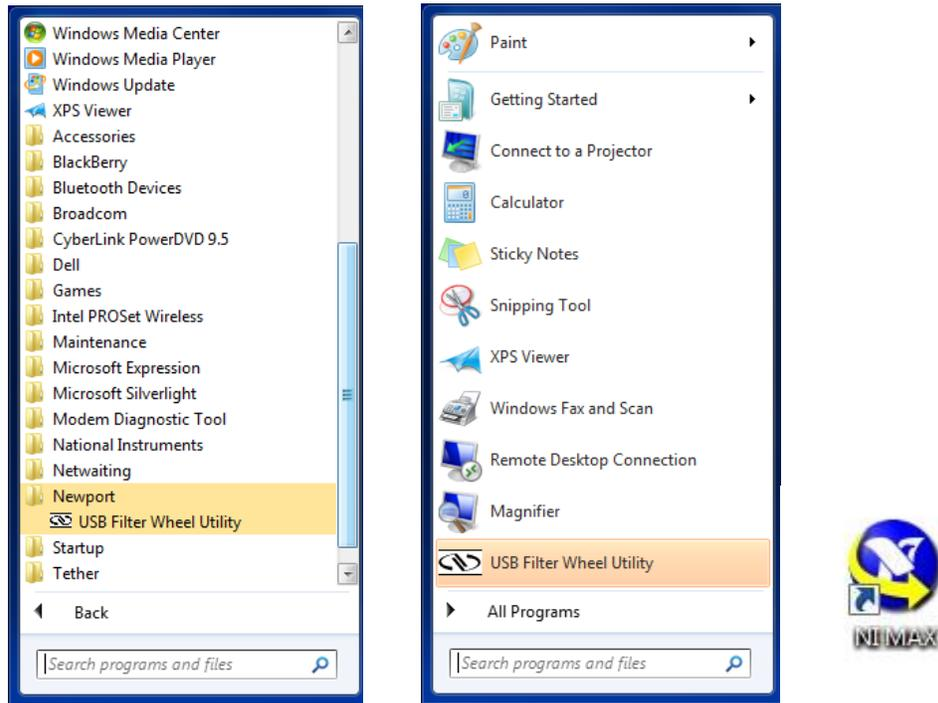

Figure 45: Start Menu and Desktop Changes
- After the computer restarts, the Start menu shall contain the Filter Wheel Utility software and the National Instruments "NI Max" icon shall appear on the desktop, as shown in Figure 45.